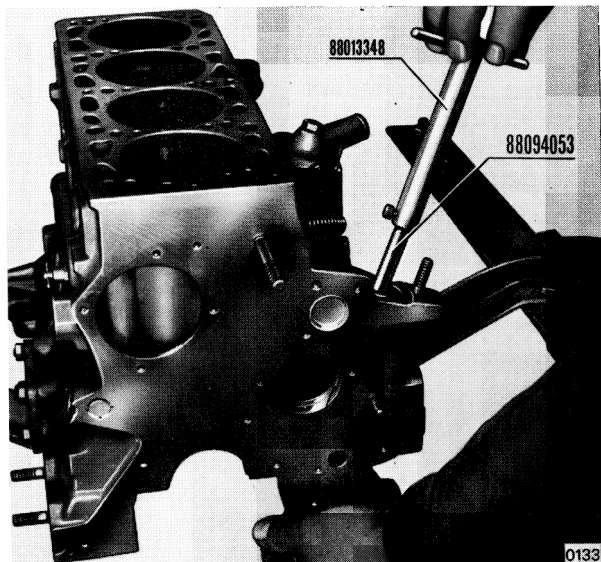

Fig. 01 3/42 - Reaming oil pump drive gear bushing with adjustable reamer 88094053 and handle 88013348.
- Clean the bushing thoroughly and blow compressed air into the oilways to remove any impurities, then refit cover (3) (see fig. 01 3/31).